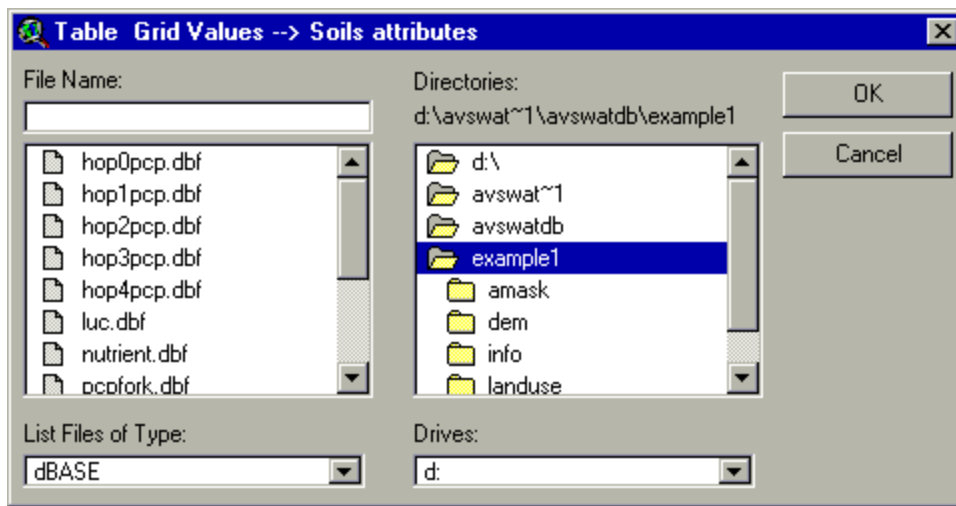

Figure 6.46
- d. A browser will appear, allowing you to select and load the look-up table from disk (Figure 6.46).